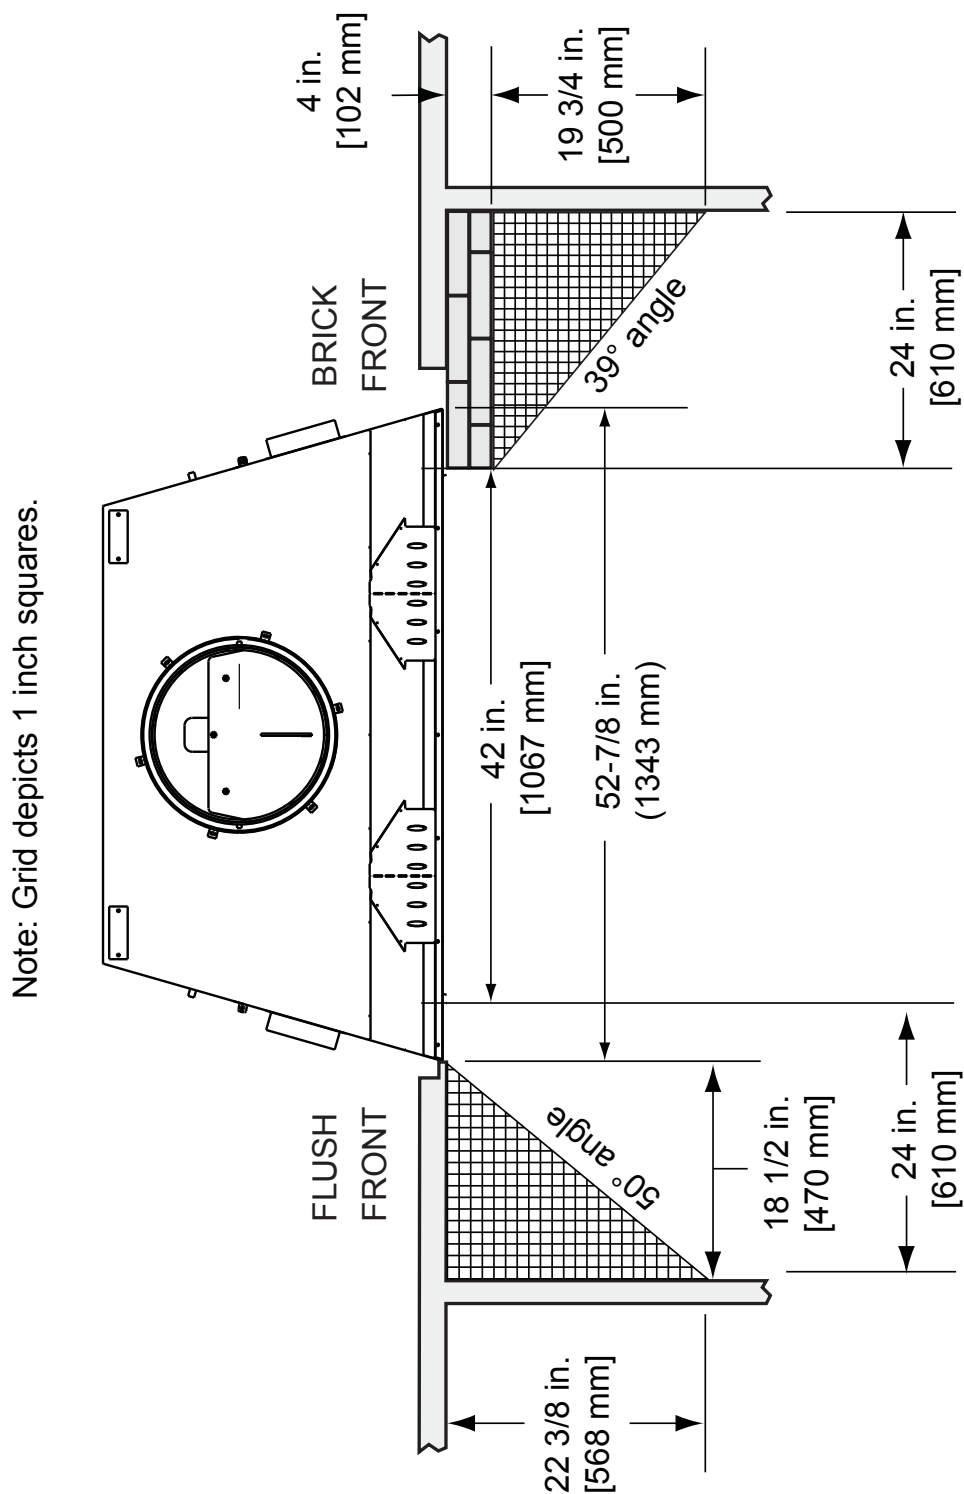

Figure 12.10 Combustible Mantel Leg or Wall Projections (Acceptable on both sides of opening)
- Combustible mantel legs, surrounds and stub walls may be constructed per Figure 12.10.